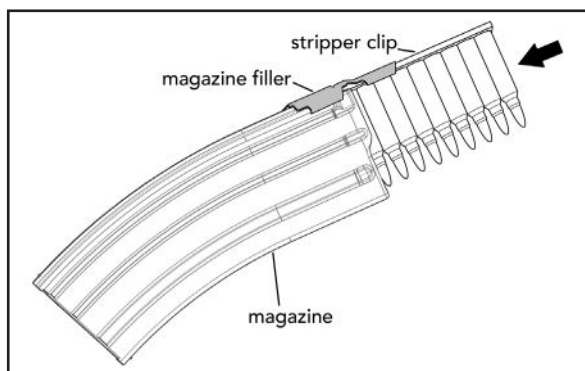

Fig. 28 – Loading Magazine
1. Attach the magazine filler to the top rear of the magazine and insert a 10-round stripper clip into the magazine filler (Fig. 28).